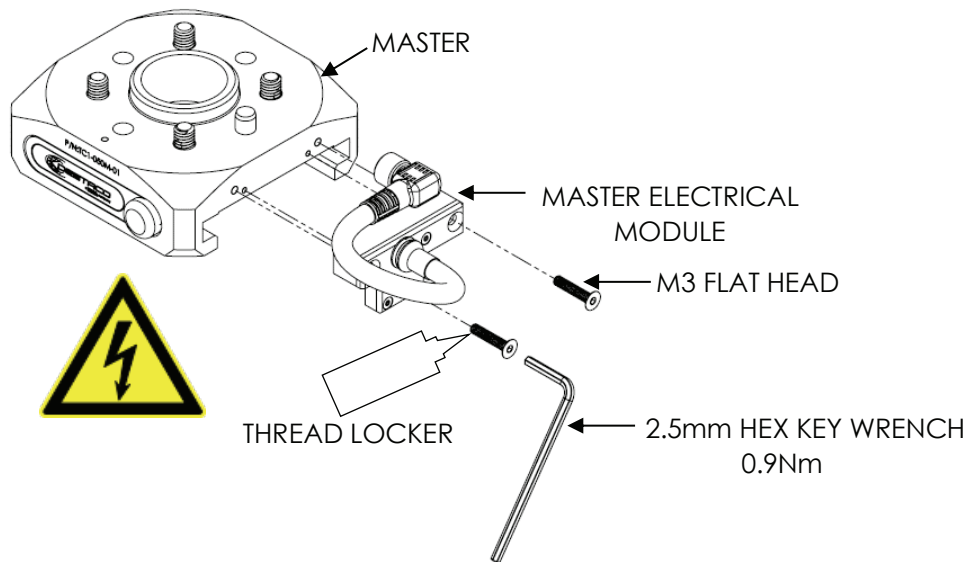
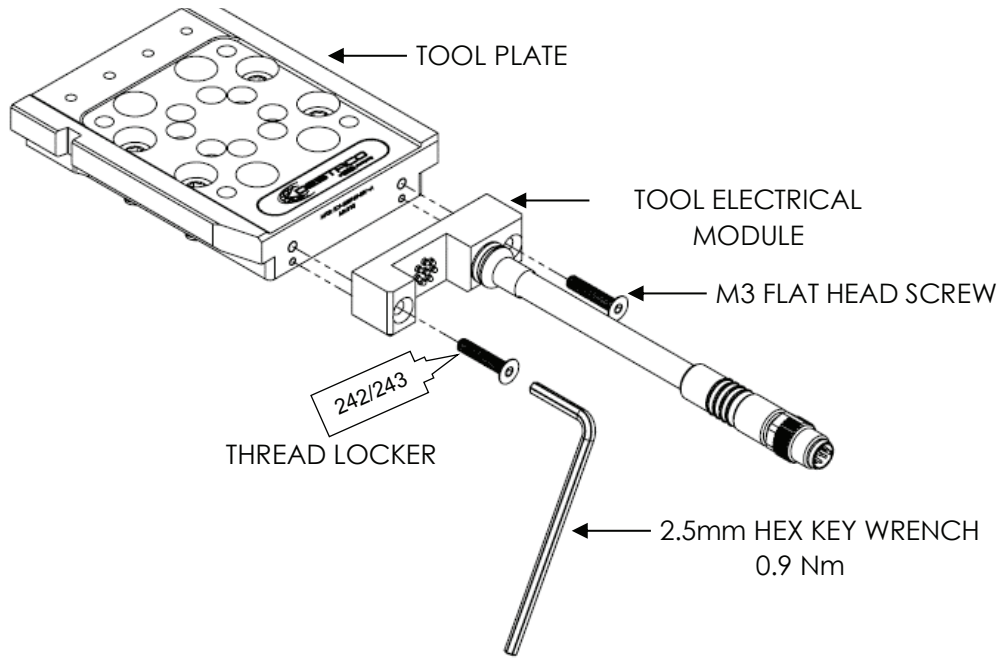

Fig.9
Fig.10
- Remove the existing electric module by disconnecting the electrical connector and unscrewing the M3 screws using 2.5mm hex key wrench (see Fig.9 or Fig.10).